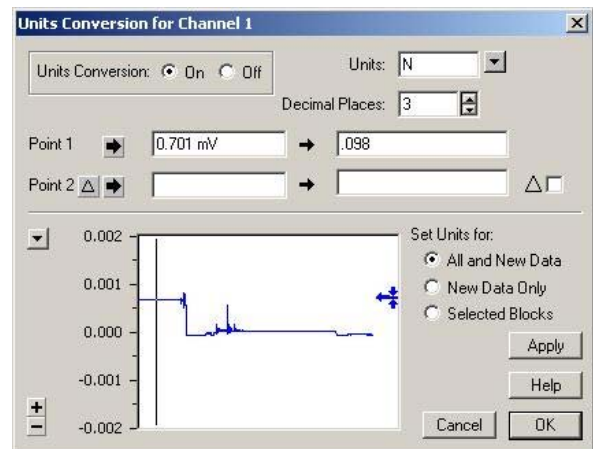

Figure 2. The Units Conversion dialog box, showing values input for Point 1.
6. In the data display panel of the Units Conversion dialog box, click the mouse on a point of the data trace that corresponds to the recording from the first calibration weight (Figure 2).